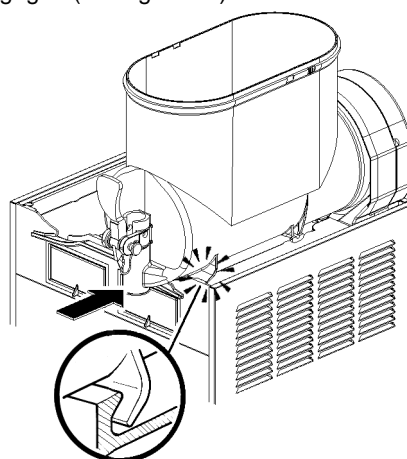

figure 15
- 7 Push the bowl towards the rear wall of the unit until it fits snugly around the gasket and its front fastening hooks are properly engaged (see figure 15).